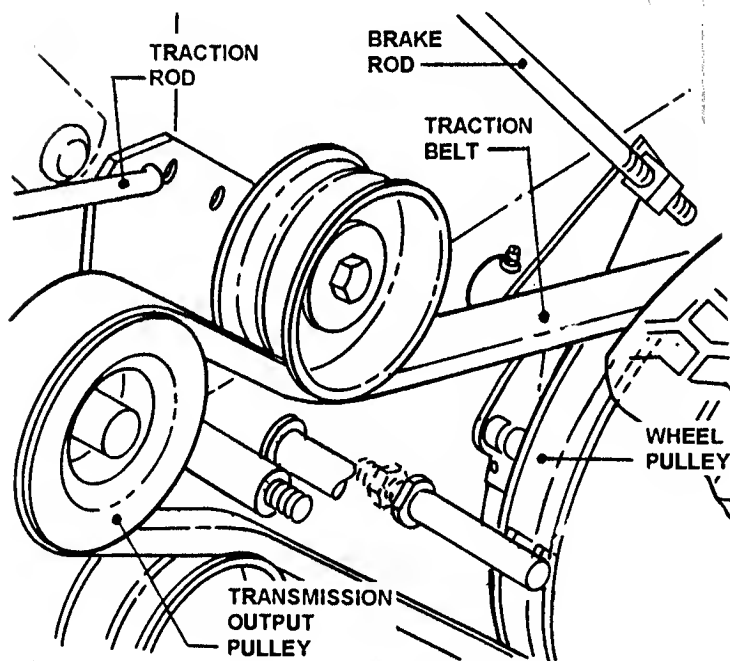

FIGURE 32
1. **STOP ENGINE!** Remove two wing-nuts retaining fender. Remove fender. See Figure 32.
2. Place Traction Belt on Wheel Pulley followed by Transmission Output Pulley. Refer to Figure 32.